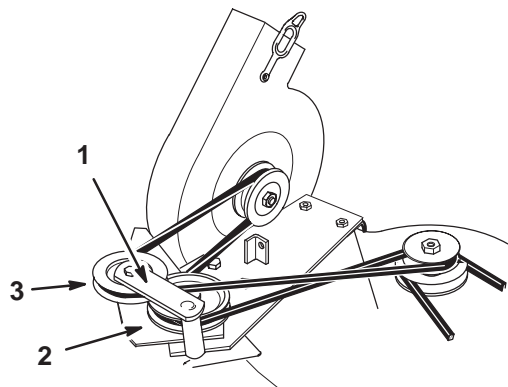

Figure 17
2. With the blower swung out in the open position, install the blower drive belt between the idler pulley bracket and pulleys. Then loop the belt around the blower pulley (Fig. 17).
3. Install the blower drive belt around the top pulley (Fig. 17).